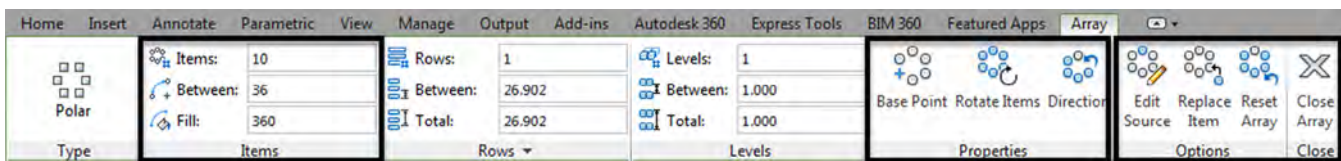

FIGURE 8.5
The Polar Array Ribbon has three areas of interest, the Items, Properties, and the Options/Close category, as seen in Figure 8.5. The Items category we already mentioned and it is relatively self-explanatory. Top to bottom, the first value (10) is the number of items in the array, and you can change it for an instant update. Below that is the angle between all the objects (36°), and finally, below that, the total angle filled (360° , or a full circle). This should make sense as $36 \times 10 = 360$.